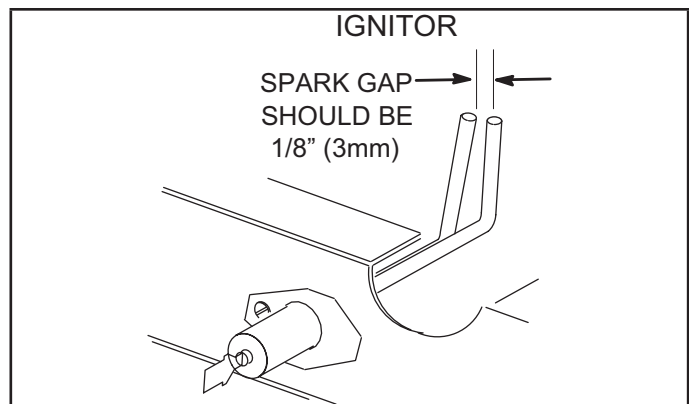

FIGURE 47
- 4 - Locate the ignitor under the left burners. Check ignitor spark gap with appropriately sized twist drills or feeler gauges. See FIGURE 47.